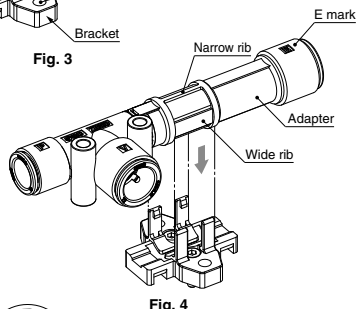

Fig. 4
- 3) To mount the product to the bracket, push it down while directing the narrow rib and E mark on the adapter upward and the wider rib to the side (Fig.4). Hold the adapter when rotating the vacuum (V) port for adjustment.